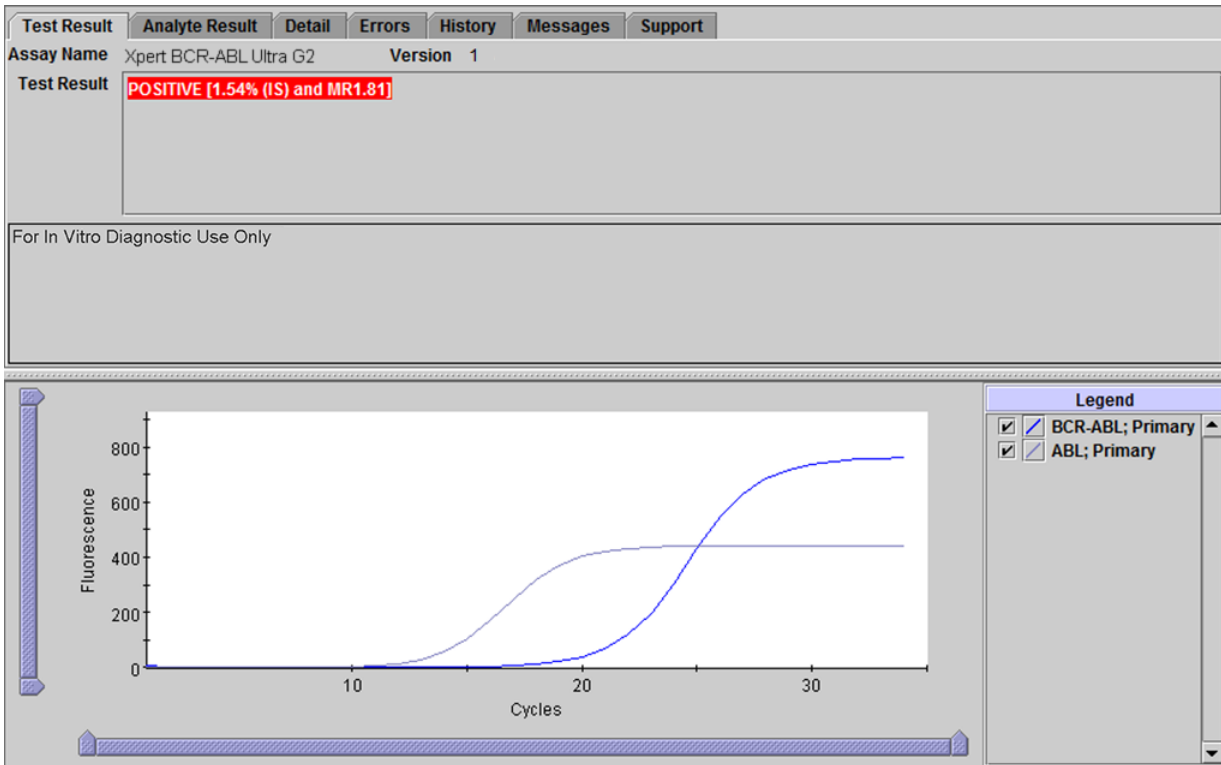
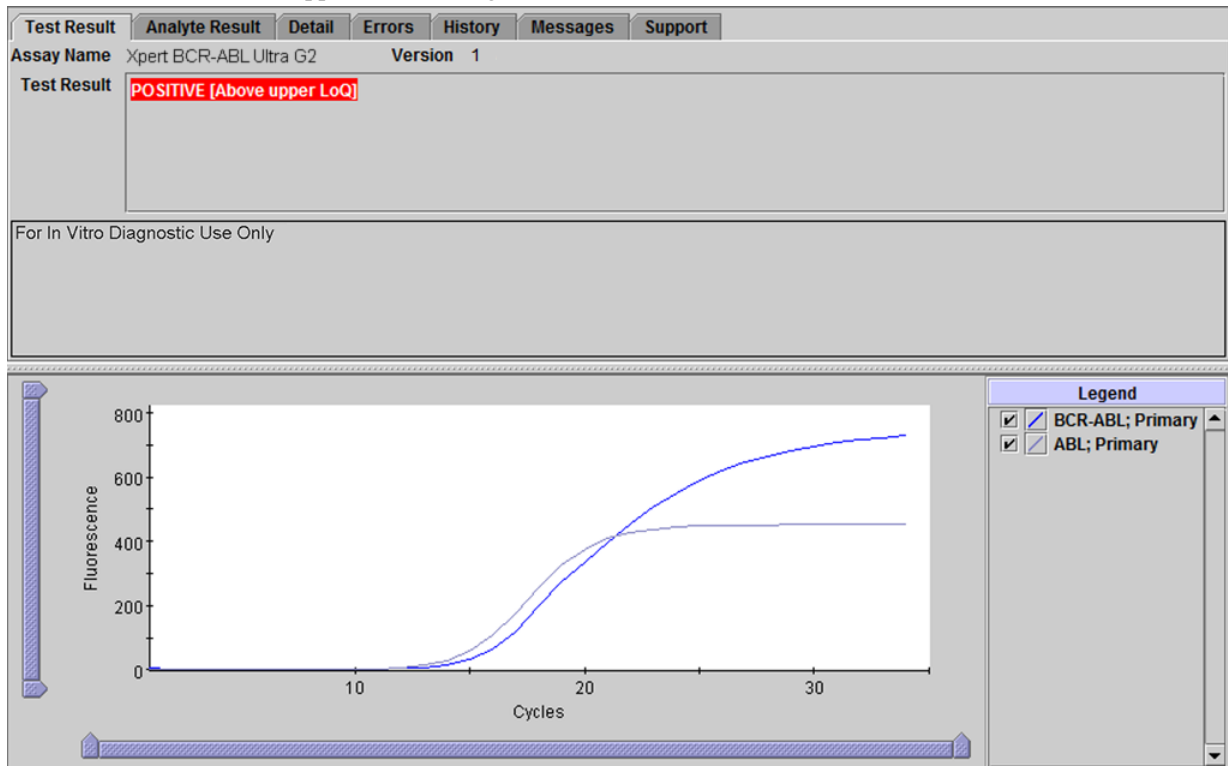
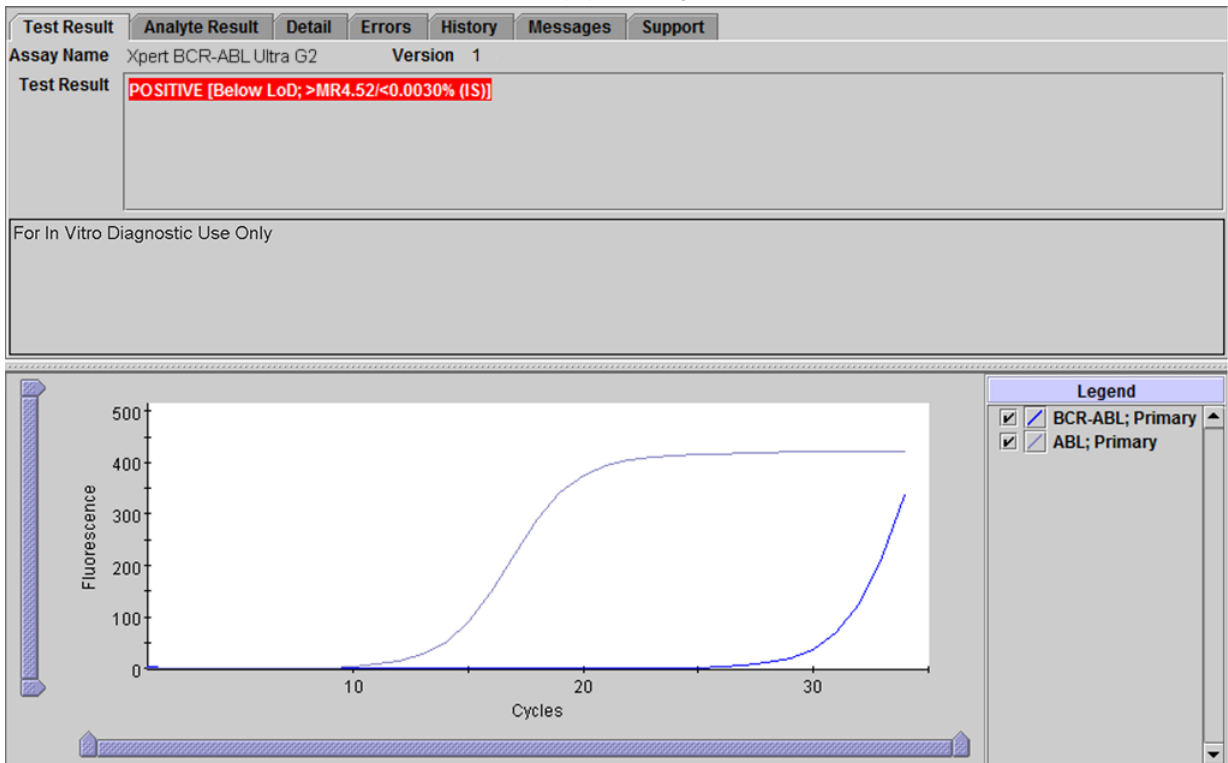

Figure 2. GeneXpert Dx View Results Window: POSITIVE [1.54% (*IS*) and MR1.81]
Figure 3. GeneXpert Dx View Results Window: **POSITIVE [Above upper LoQ]**
Figure 4. GeneXpert Dx View Results Window: **POSITIVE [Below LoD; >MR4.52/<0.0030% (IS)]**
| <p>POSITIVE See Figure 2, Figure 3, Figure 4</p> | <p>BCR-ABL transcript was detected.</p> <ul style="list-style-type: none"> ● BCR-ABL POSITIVE – BCR-ABL transcript was detected and has a cycle threshold (Ct) within the valid range and endpoint above the threshold setting. ● Possible positive results: <ul style="list-style-type: none"> ● POSITIVE [#.##% (IS) and MR#.##]; Figure 2. ● POSITIVE [Above upper LoQ]; Figure 3. ● POSITIVE [Below LoD; >MR4.52/<0.003% (IS)]; Figure 4. ● ABL PASS; ABL transcript was detected and has a cycle threshold (Ct) within the valid range and endpoint above the threshold setting. ● When ABL Ct value is below 18, a minimum of 32,000 ABL copy number was present in the reaction.^{17,18} ● Probe Check PASS; all probe check results passed. |
Result: **POSITIVE [1.54% (*IS*) and MR1.81]**. See Figure 2.
Result: **POSITIVE [Above upper LoQ]**. See Figure 3.
Result: **POSITIVE [Below LoD; >MR4.52/<0.0030% (IS)]**. See Figure 4.